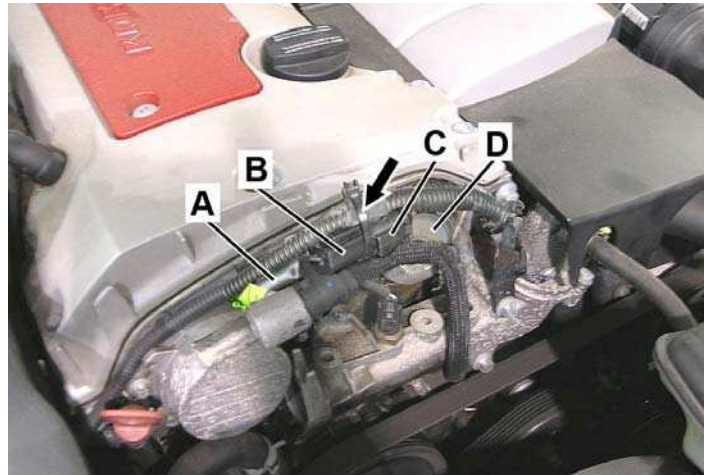

Figure 4
- Connect adapter harness (A, Figure 4) between connector on camshaft solenoid and engine harness (C).
- Secure adapter harness connector (B, Figure 4) to existing engine harness sheath with cable tie (arrow).